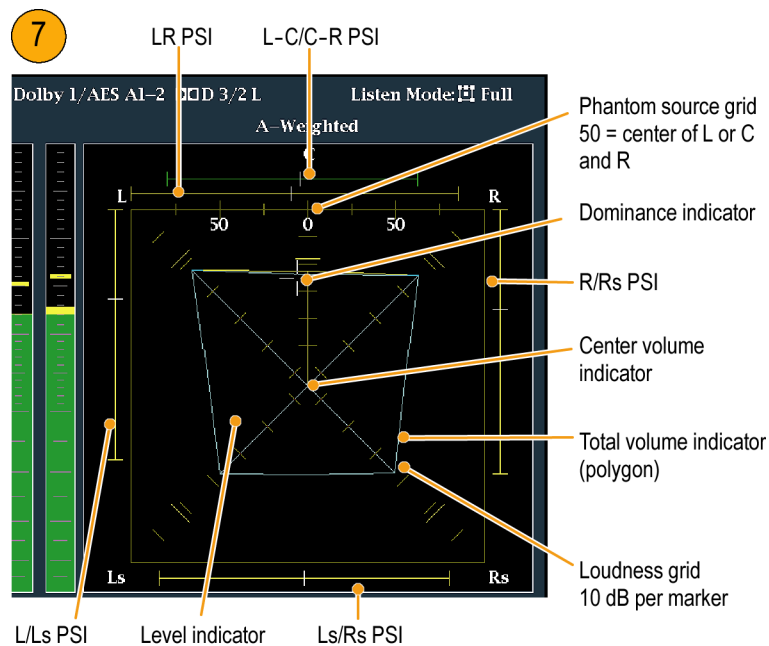

Figure 75: Surround sound indicators
7. Use the surround display to monitor relative loudness of the individual elements rendered in a surround-sound listening environment. Check the surround sound display for performance parameters and indicators. (See Figure 75.)